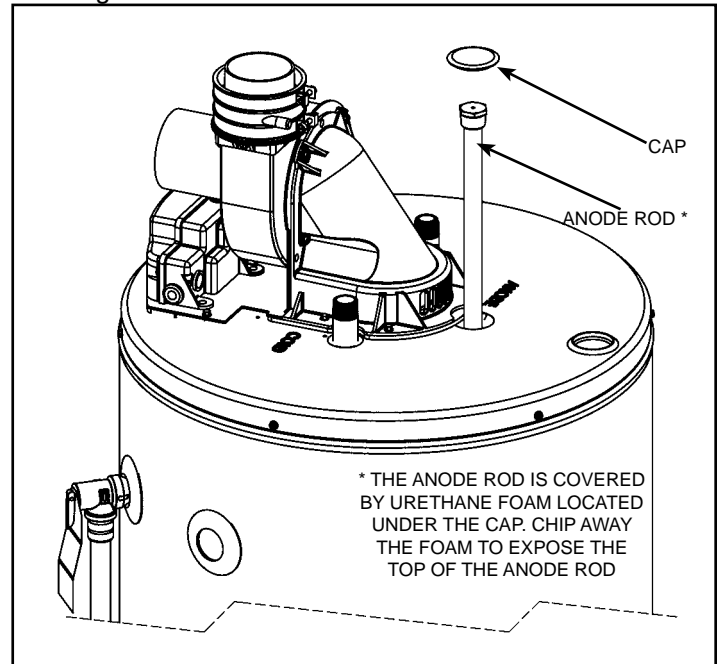

Figure 46
5. Remove the anode cap on top of the heater and remove just enough insulation so you can access to the anode head (Figure 46). Keep in a safe place for reinstallation later.
6. Remove the anode rod by using a ratchet and a 1-1/16” socket turning counter-clockwise (Figure 46).